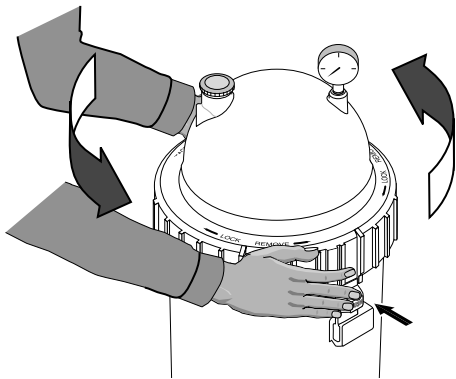

Figure 4 – Depress safety latch to unscrew the Posi-Ring™.
- a. Press the safety latch (below the ring) toward the tank to release it (see Figure 4).